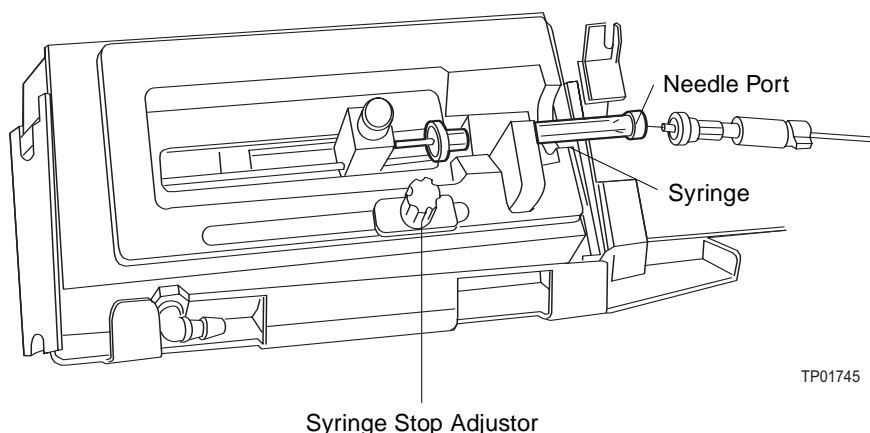

Figure 2-9 Syringe Pump
4. Fit the syringe into the syringe pump, and set the syringe stop accordingly (Figure 2-9).